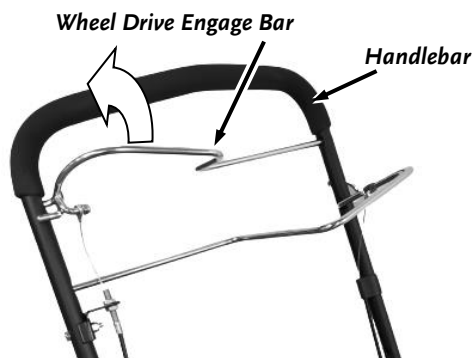

Figure 16
1. Bring the Wheel Drive Engage Bar toward you and the Handlebar (**Figure 16**). The closer to the Handlebar you move the Bar the faster the machine will travel.